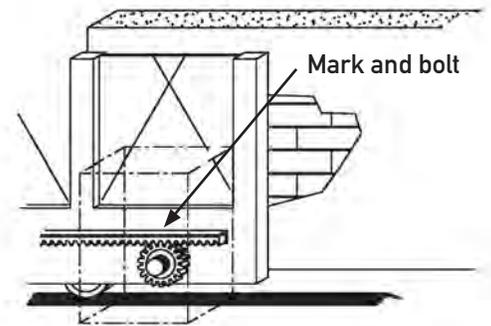

FIG. 4
2. Put one end of rack section on the sprocket. Make it level and mark on the gate the center of the slot (Fig. 4).